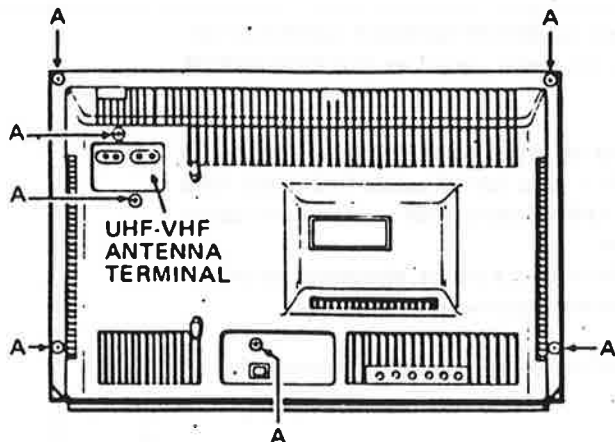

Figure 1 - CABINET BACK REMOVAL
1. Refer to Figure 1 and remove screws-A (7 screws.)